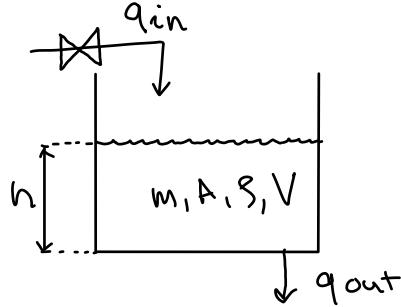

Figure 2: A liquid tank with a hole.
- Q7) Let us consider the liquid tank shown in Fig. 2. The physics-based model for liquid level  $h(t)$  in the tank is